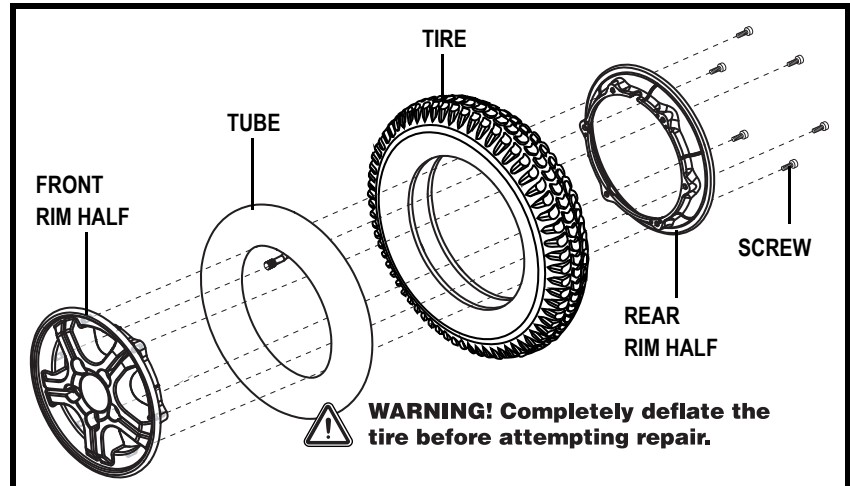

Figure 26. Drive Wheel Disassembled
6. Remove the screws and separate the front and rear rim. See figure 26.
10. Reinstall the five (5) lug nuts onto the wheel hub and tighten.